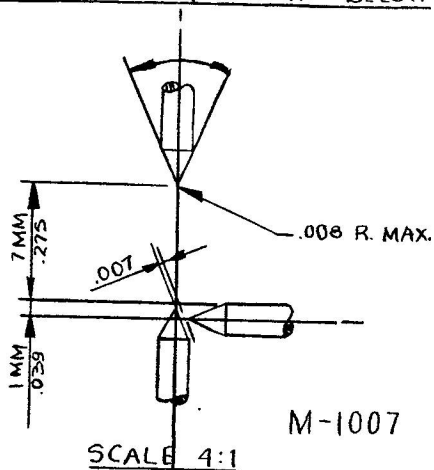

Figure 11 - Correct Setting of Standard
b. Connect the high tension cables to the spark rack set with 7 mm. gaps. (See figure 11.) Run the magneto at normal speeds for two or three minutes to observe mechanical operation.